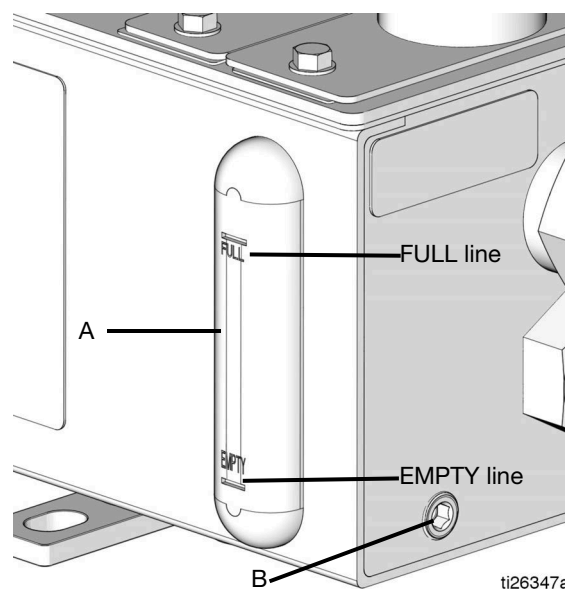

FIG. 3:
- a. Remove the Drain Plug (B) (FIG. 3) and drain the reservoir. Dispose of the oil according to all applicable regulations.
- e. Apply thread sealant (user supplied) to the Drain Plug (B), reinstall and tighten (torque 35 in-lb +/- 5 in-lb, 3.95 N•m +/- 0.6 N•m).
When needed, refill the reservoir with clean filtered lubricant until it reaches the FULL line on the Sight Glass (A) (FIG. 3).
Monitor the fluid level using the sight level gauge on the reservoir. The oil level should not be allowed to drop to or below the EMPTY line (FIG. 3), indicating an empty reservoir.